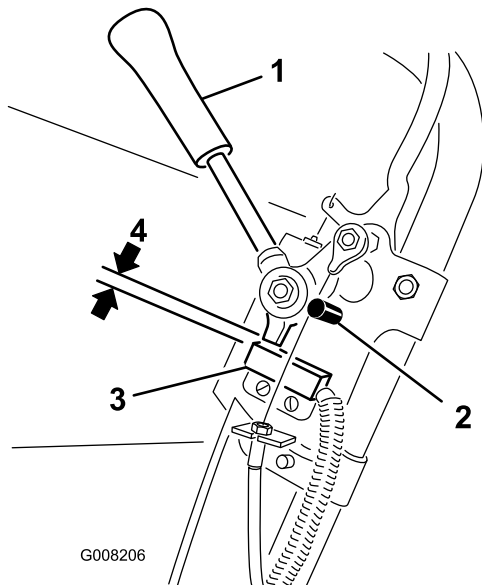

Figure 26
1. Make sure the engine is off and the traction lever is disengaged and resting against the neutral stop (Figure 26)..
2. Loosen the interlock switch mounting fasteners (Figure 26).
3. Place a .032" thick shim between the traction lever and the interlock switch (Figure 26).